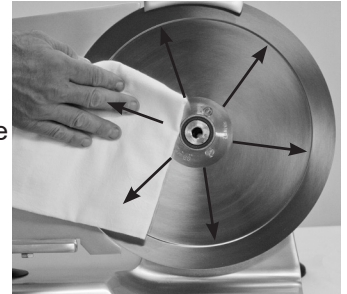

Figure 12-1
10. Knife must also be cleaned and sanitized. **Carefully** wash and rinse the top and bottom of knife by wiping from the **center of knife outward** (Fig. 12-1). Spray both sides of knife, slicer table and the entire slicer base with a non-bleach, non-chlorine sanitizer following the instructions on your quaternary sanitizer container to make sure proper sanitation is achieved. Allow slicer parts to air dry.